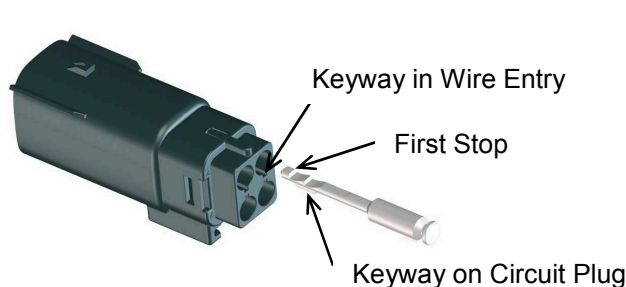
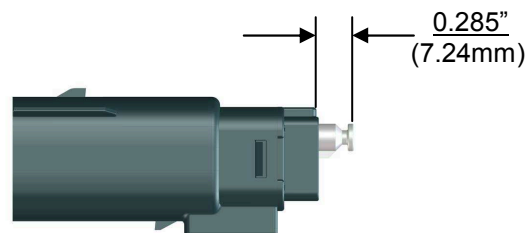

Figure 3: Circuit Plug Orientation
Figure 4: Circuit Plug in Final Position
- In its final position, the dimension between the plug housing and the circuit plug is approximately 0.285" (7,24mm) (See Figure 3 & Figure 4).